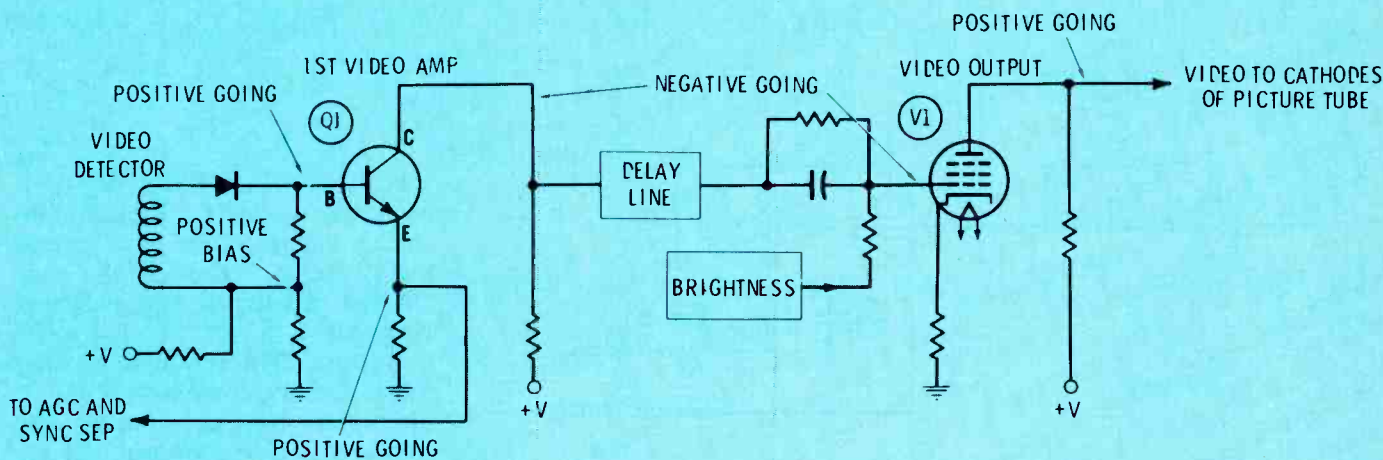

Fig. 5 Only two video amplifier stages are used in this hybrid design. The plate of V1 becomes more positive (less brightness) when a strong signal is received.
The schematic shown in Fig. 5 is typical of the video circuit in
Fig. 5 A linear sawtooth of yoke current does not necessarily produce a linear picture on the screen of the picture tube because of a side-effect from wide-angle deflection. (A) Adjusting the controls and increasing the value of C34 produced this good sawtooth of vertical yoke current. (B) The good sawtooth of (A) produced this crosshatch pattern, which is stretched both at the top and the bottom. (C) Adjusting the height and linearity controls for the best linearity of the raster produced this good crosshatch pattern. (D) The control settings which produced the good crosshatch pattern also produced a rounded sawtooth of current.